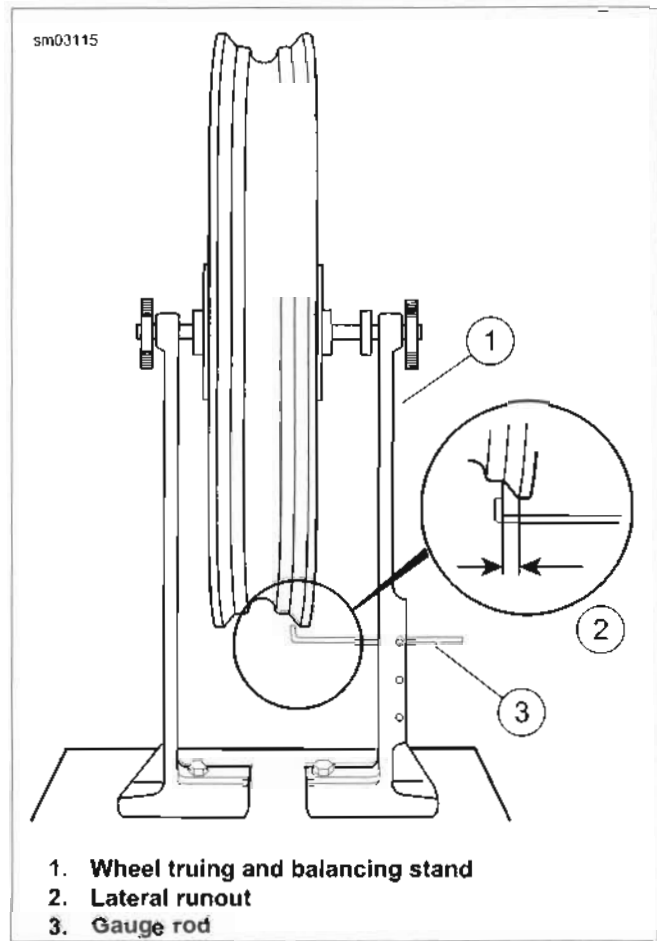

Figure 2-22. Checking Lateral Runout
1. See Figure 2-22. With the wheel mounted in WHEEL TRUING AND BALANCING STAND (Part No. HD-99500-80), adjust the gauge rod (3) near the rim bead flange.
2. Rotate the rim slowly and check lateral runout (2). If runout exceeds 0.030 in (0.76 mm), adjust spokes as follows.